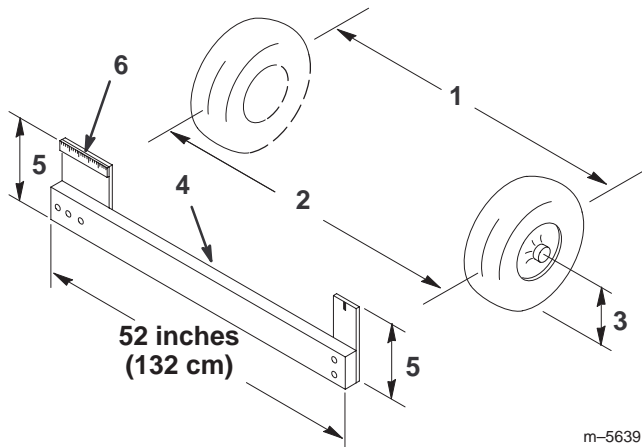

Figure 45
4. Measure the distance between both of the front tires at the axle height at both the front and rear of the front tires (Fig. 45). A fixture or alignment gauge is needed for the rear measurement of the front tires at axle height. Use the same fixture or alignment gauge to accurately measure the front of the front tires at axle height (Fig. 45).